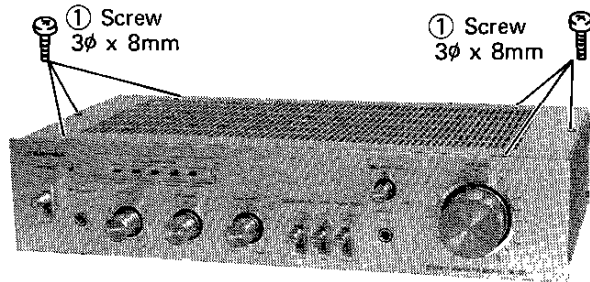

Figure 3.
1. Remove six screws ①. See Figure 3.
1. Remove the Top Cover. See figure 3.